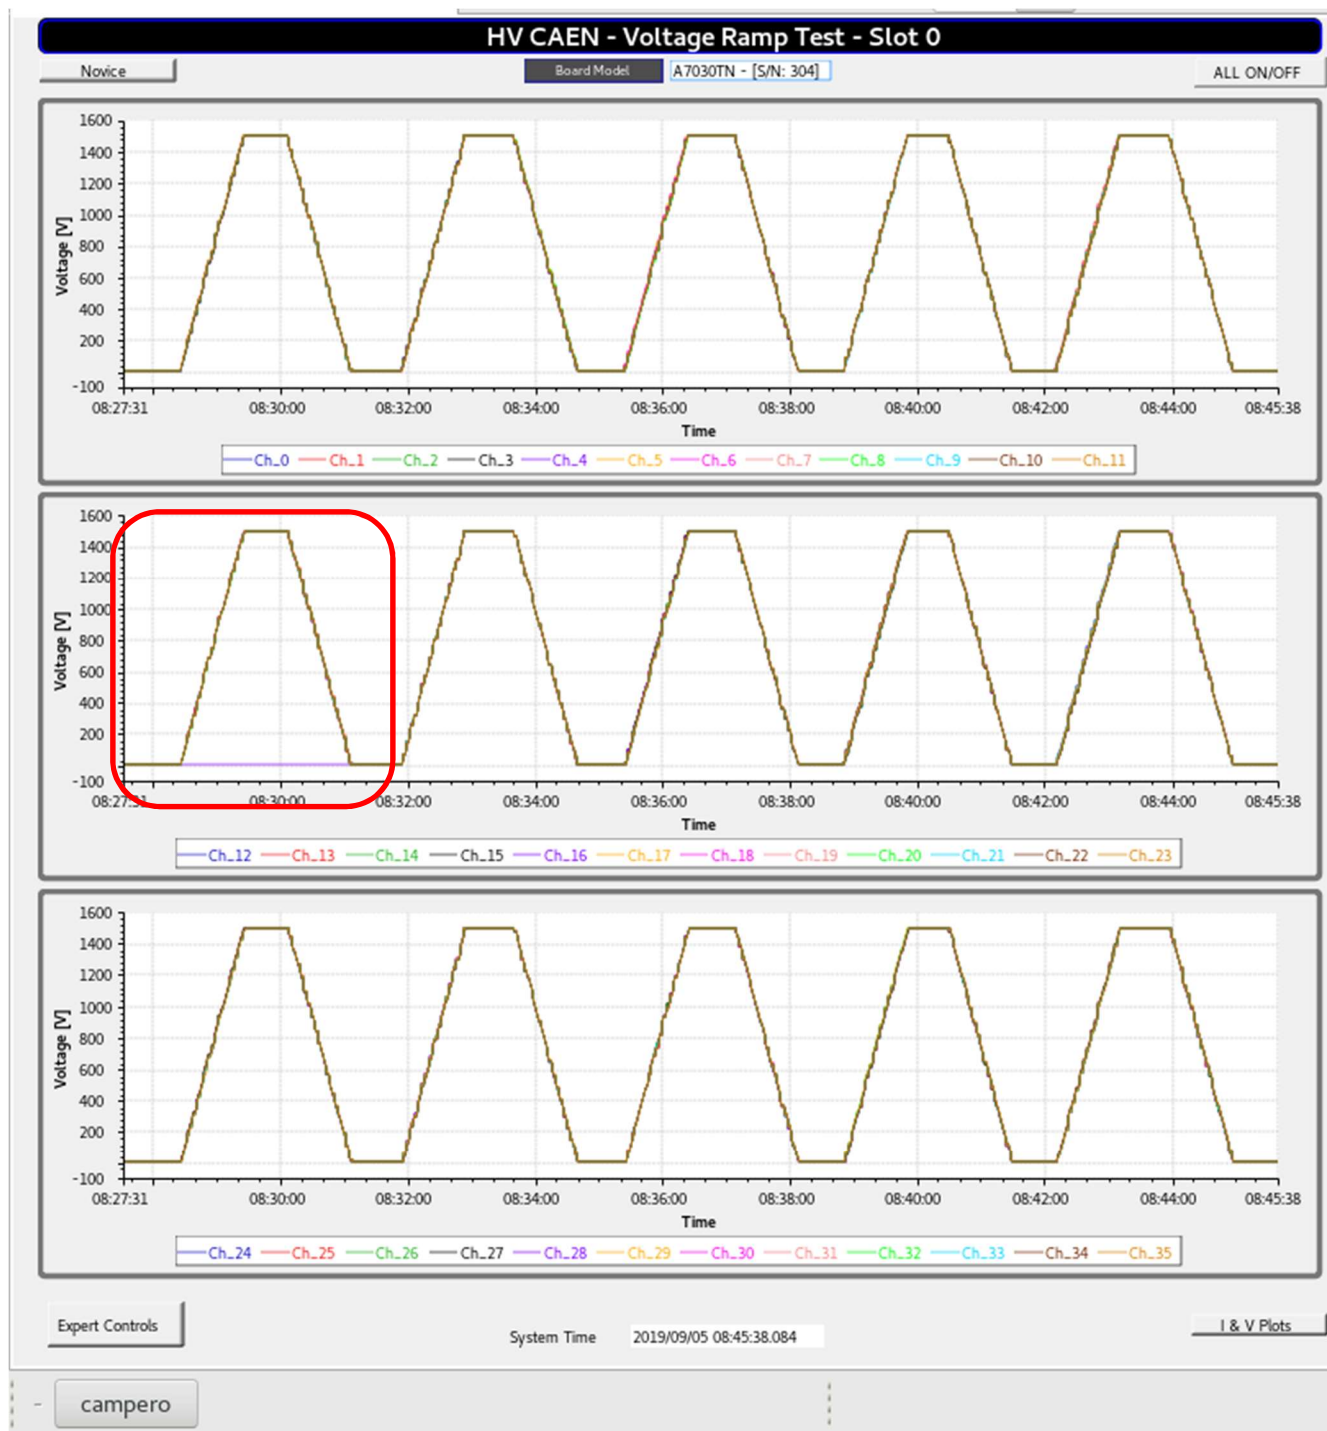

Fig.8 — Voltage Ramp Test CSS-BOY screen shows test 1.2 results. Red rounded rectangles focus the issues found
1. Channel 16 did not ramp up; PV associated with P_w parameter did not change from 0 to 1 after JavaScript was executed as part of *Expert Controls CSS-BOY* screen. See fig.8.